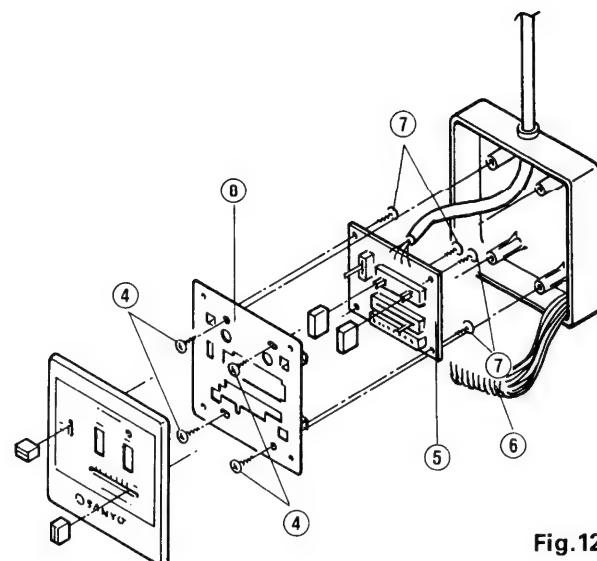

Fig.12
④ For removal of the control switch PCB assembly ⑤, removed the connection of the lead wires ⑥ and remove the four screws ⑦. Fig.12.